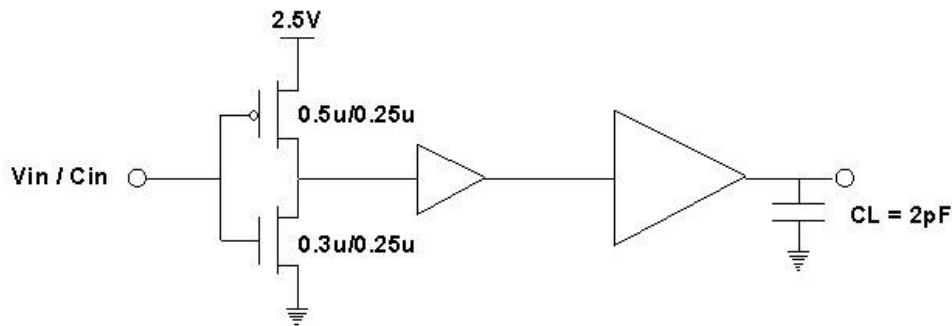

Figure 1a – Minimum Sized Inverter and Buffer Circuitry for driving a large load capacitance
- The minimum sized inverter in the library is not up to date. Please create an inverter in max with the same dimensions as shown in the first stage of Figure 1a below.
- Our design calls for a minimum sized inverter to drive a lumped capacitive load $C_L = 2.0$ pF with $V_{DD} = 2.5$ V. In order to achieve better performance, two buffer stages are introduced as shown in Figure 1a below.
- d. Using the information obtained in part c, select the two buffers from the library that would yield the best response (i.e. gives the fastest performance) for the circuit shown in Figure 1a. You may use the same buffer twice if you so decide. Please show your hand calculations to justify your choice of buffers (i.e. find t_{delay} through the whole circuit).